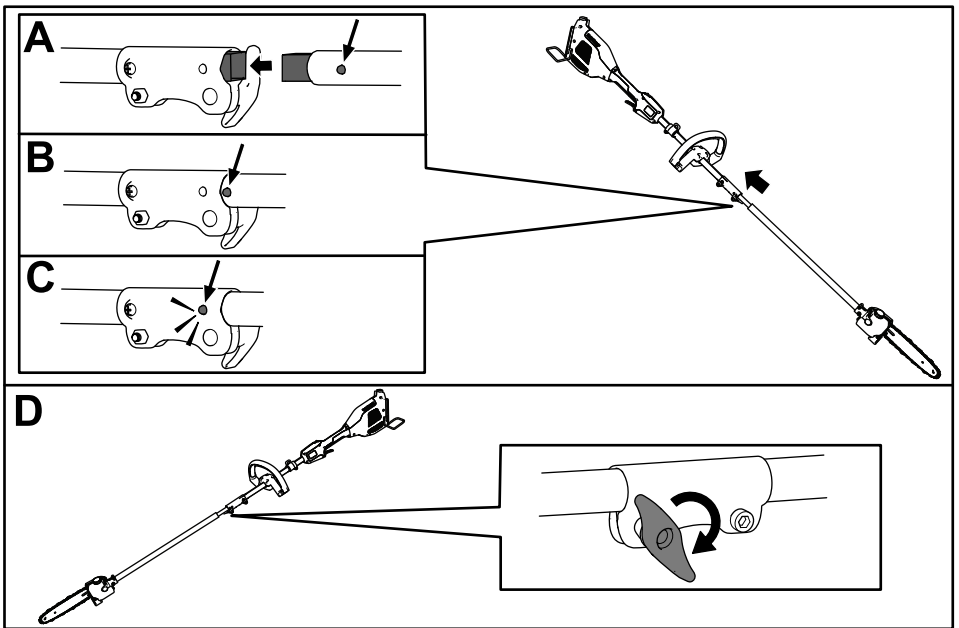

Figure 4
1. Install the square shaft of the attachment into the square shaft of the power head (A of Figure 4).
2. Align the locking button on the lower shaft with the slotted hole on the upper shaft and slide the 2 shafts together (B and C of Figure 4).
Note: The locking button clicks into the slotted hole when the shafts are secured (C of Figure 4).
3. Using the screw-handle, tighten the screw on the shaft connector until it is secure (D of Figure 4).